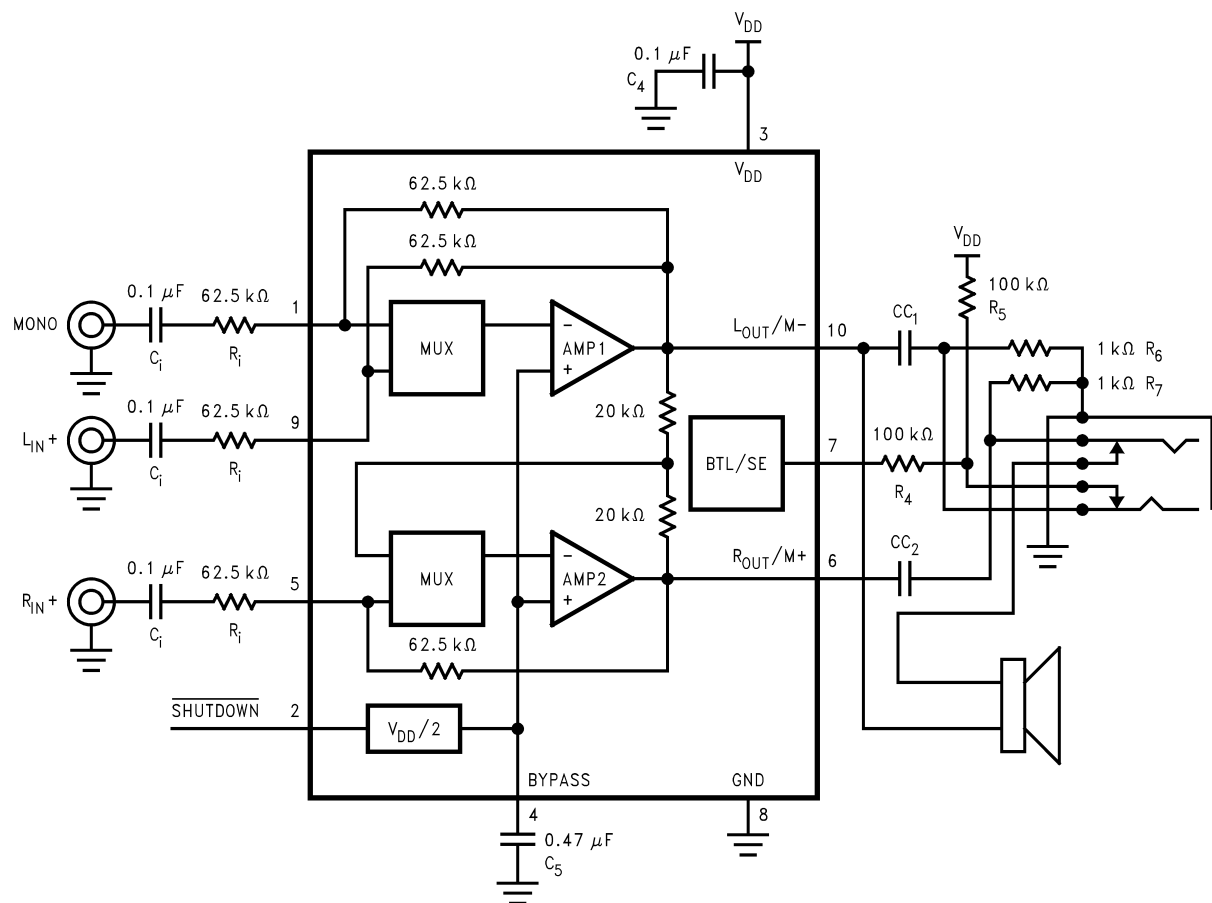

Figure 1. Typical Audio Amplifier Application Circuit
- PSRR (@ 1kHz, $2.9\text{V} \leq V_{DD} \leq 5.1\text{V}$, (Figure 1))
The following specifications apply for the circuit shown in Figure 1 unless otherwise specified. Limits apply for T_A = 25°C. ⁽¹⁾
The following specifications apply for the circuit shown in Figure 1 unless otherwise specified. Limits apply for $T_A = 25^\circ\text{C}$.⁽¹⁾
The following specifications apply for the circuit shown in Figure 1, $R_L = 4\Omega$, and a measurement bandwidth of 20Hz to 80kHz, unless otherwise specified. Limits apply for $T_A = 25^\circ\text{C}$.⁽¹⁾
The following specifications apply for the circuit shown in Figure 1 unless otherwise specified. Limits apply for $T_A = 25^\circ C$.⁽¹⁾
The following specifications apply for the circuit shown in Figure 1, $R_L = 4\Omega$, and a measurement bandwidth of 20Hz to 80kHz, unless otherwise specified. Limits apply for $T_A = 25^\circ C$.⁽¹⁾